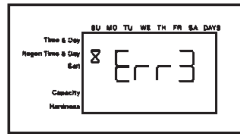

Figure 14
- When the controller is first plugged in, it may display a flashing hourglass and the message Err 3, this means that the controller is rotating to the home position (Figure 14). If the Err 2 is displayed, check that the incoming power frequency matches the controller. See the Troubleshooting section of this manual.